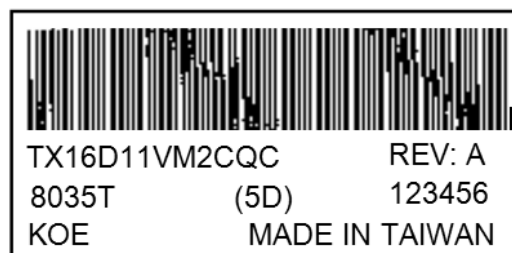

Fig 14.3
1) The lot mark is showing in Fig.14.3. First 4 digits are used to represent production lot, T represented made in Taiwan, and the last 6 digits are the serial number.
4) The location of the lot mark is on the back of the display shown in Fig. 14.3.